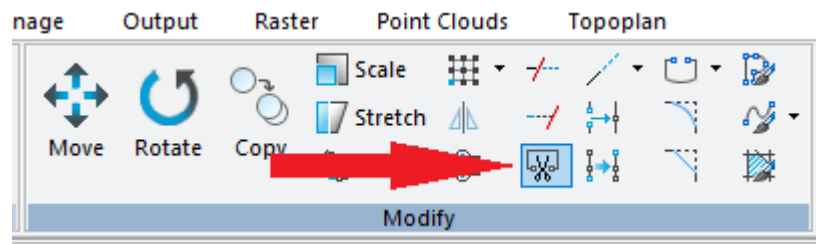

Fig. 9. Smart Trim tool
7. Use the Smart Trim command to remove the excess lines (fig. 9 and 10):